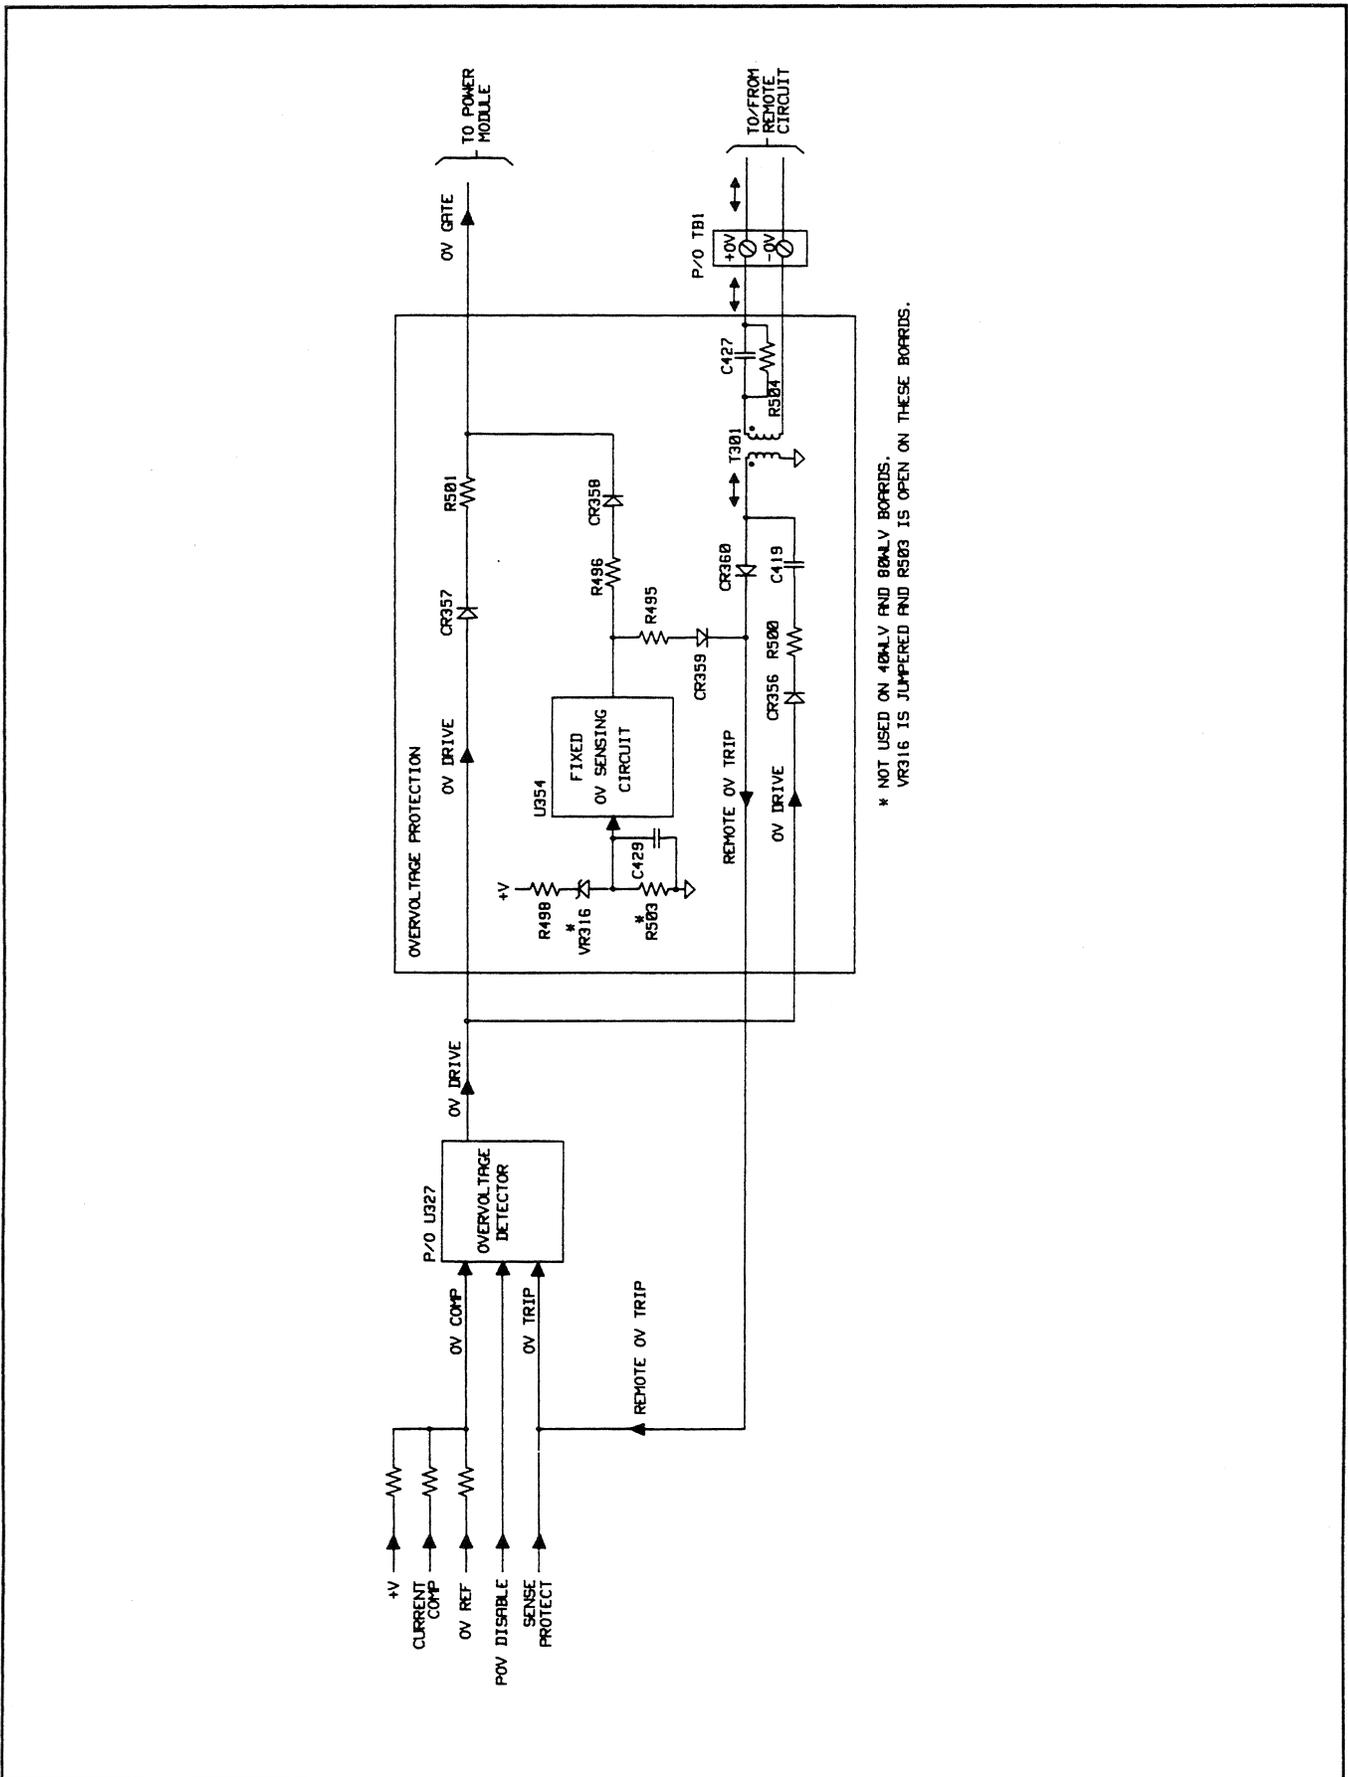

Figure 2-9. Overvoltage Protection Circuits, Simplified Schematic
**2-47 Overvoltage Protection Circuits.** These circuits generate the OV GATE signal which fires the SCR in the power module and shuts down the output. Figure 2-9 is a simplified schematic of the overvoltage protection circuits which are comprised mainly of a fixed overvoltage sensing circuit (U354), signal processor U327, diodes CR356-CR360, and pulse transformer (T301) that couples the remote trip signals that are sent/received via the + OV and - OV terminals.
As shown in Figure 2-9, the main input to the overvoltage protection circuits is the OV DRIVE signal which is received from the overvoltage detector (P/O U327, see paragraph 2-32). The OV DRIVE signal goes high to activate the OV GATE signal which is sent via diode CR357 to fire the SCR in the power module. The conditions which activate OV DRIVE are described in the following paragraphs.
signal can activate the OV DRIVE and shut down the supply regardless of the state of the POV DISABLE signal. As shown in Figure 2-9, OV TRIP is the output of a wired OR signal can gate and can be activated by either the SENSE PROTECT signal (as described in paragraph 2 - 41) or by the REMOTE OV TRIP signal. The REMOTE OV TRIP signal can be generated by the fixed OV sensing circuit or by a remote signal connected to the output's + OV and - OV terminals.
As shown in Figure 2-9, the trip signal enters at the  $\pm$  OV terminals and is coupled through pulse transformer T301, diode CR360, and the overvoltage detector circuit to generate OV GATE through CR357 and shut down the supply.